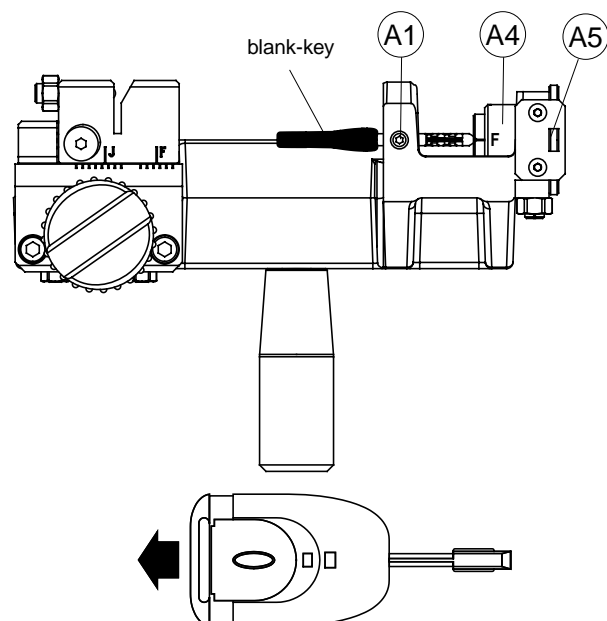

Fig. 14
ATTENTION: when cutting original FORD keys with lights, before locking into the clamp detach the part containing the electrical devices, otherwise the head is too big (fig.14).
- 1) place the key blank tip into the rotating clamp (A) and push up against the tip stop groove (A2).
- 2) continue to push, and check that the key is in the vertical position (fig.14) and the number "1" is visible in the window. If necessary, turn the key until it is properly positioned.